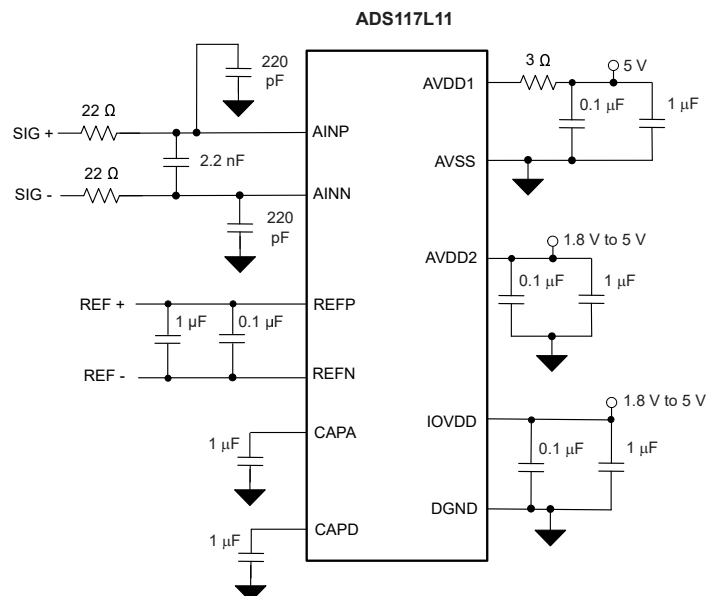

**Figure 9-4. Device Bypass Recommendation**
**Figure 9-4** shows the component placement for the device configured for unipolar power-supply operation.